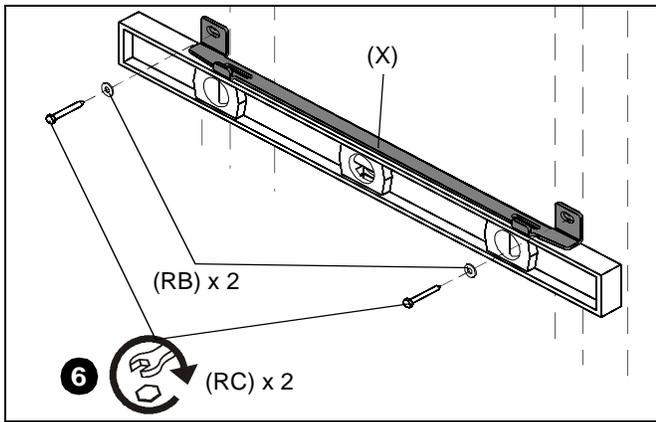

Figure 5
- Attach mounting bracket (X) to wall with two 5/16 x 2-1/2" lag screws (RC) and two 5/16" flat washers (RB). (See Figure 5)